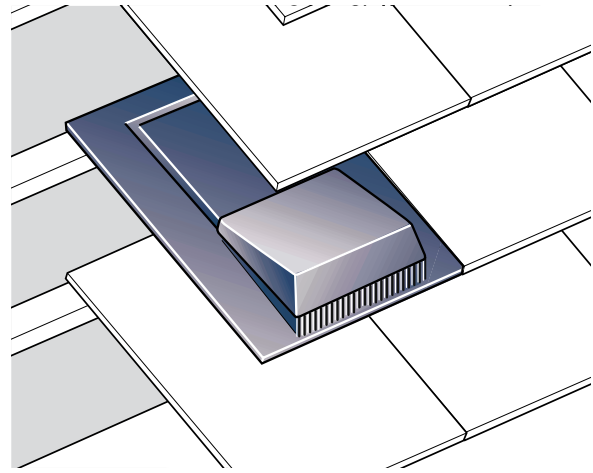

Fig. 1
2. Remove equal sized corners from the two slates directly beneath the vent by cutting diagonally from a point 150mm across the top of each slate to a meeting point 230mm down the slate thereby creating a triangle pointing down the roof, Fig. 1.